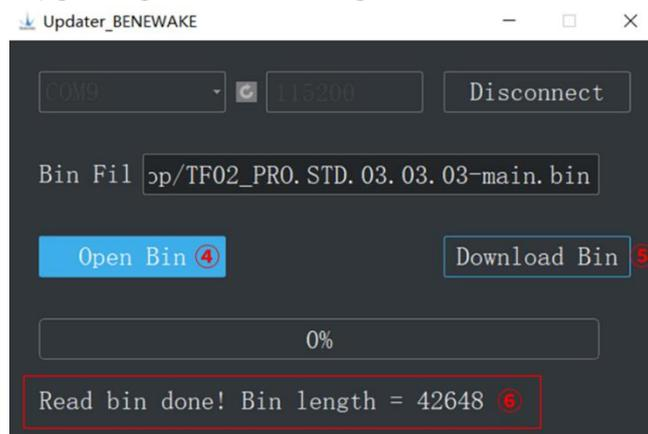

Figure 6-2 Upload firmware file
- 2) Click "④ Open Bin" to choose the firmware being flashed, the message "⑥Read bin done" will be displayed after the file is uploaded. Then click "⑤ Download Bin" to start upgrading. As shown in Figure 6-2.